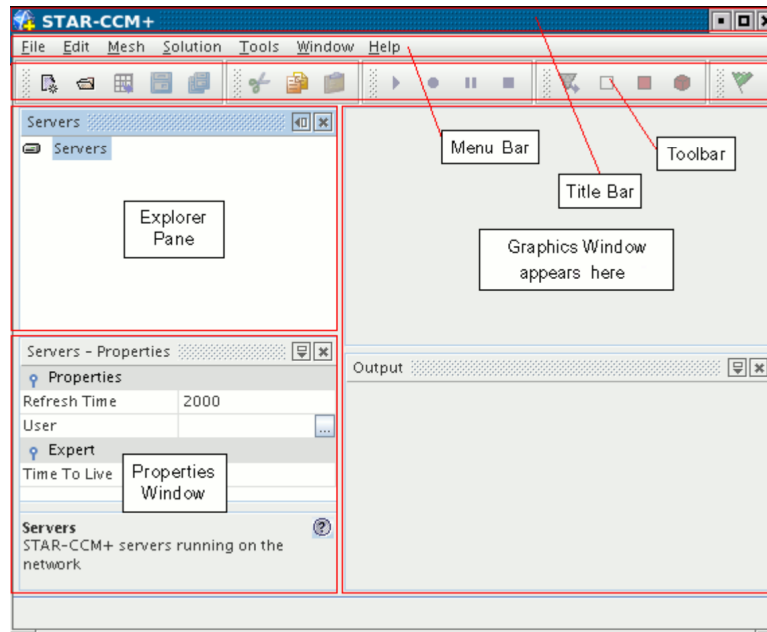

Figure 2: STAR-CCM+ layout.
5. When you open the STAR-CCM+ software, a layout similar to Figure 2 should appear. This layout will be referenced throughout the tutorial. *More information on the STAR-CCM+ menu layout can be found on Page 9067 of the User Guide.*